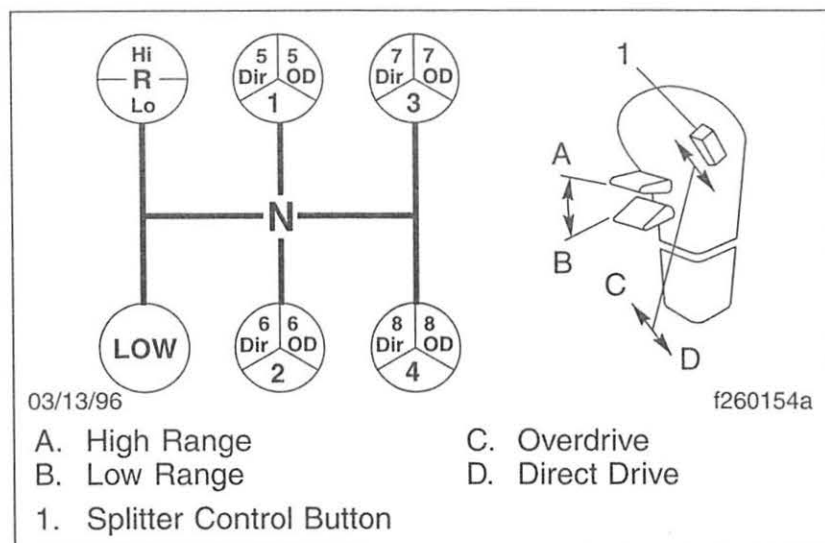

Fig. 8.10, Rockwell 13-Speed RMO Model Transmission Shift Pattern
sion consists of a 5-speed front section, and a 3-speed auxiliary section. The auxiliary section contains low- and high-range ratios, plus, an overdrive splitter gear. See **Fig. 8.10**.
4. While in 5th direct, and ready for the next downshift, push the range selection lever down into low range. Double-clutch through neutral, and shift into 4th gear. See **Fig. 8.10**. As the shift lever passes through neutral, the transmission will automatically shift from high range to low range.